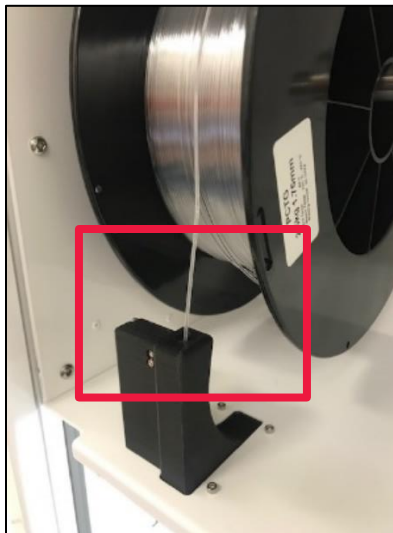

Figure 32: Filament Load
3. Slide the appropriate filament onto the filament support roller. The filament roll should be oriented so the filament will be coming off the top of the roll toward the front of the machine (Figure 32).